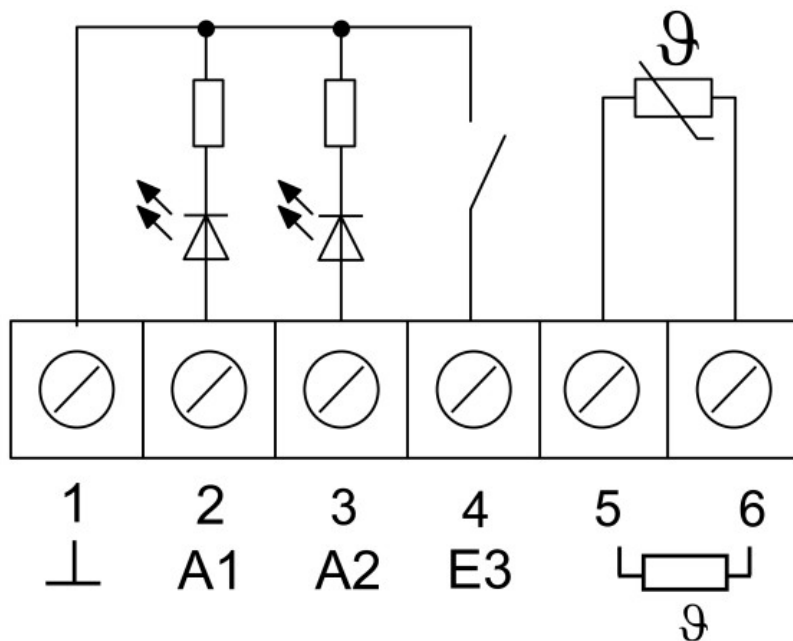

Figure 5: Connection of binary outputs
Connect the external temperature sensor to the connection terminals 5 and 6 (see figure 5) of the terminal strip (10) (see figure 3).